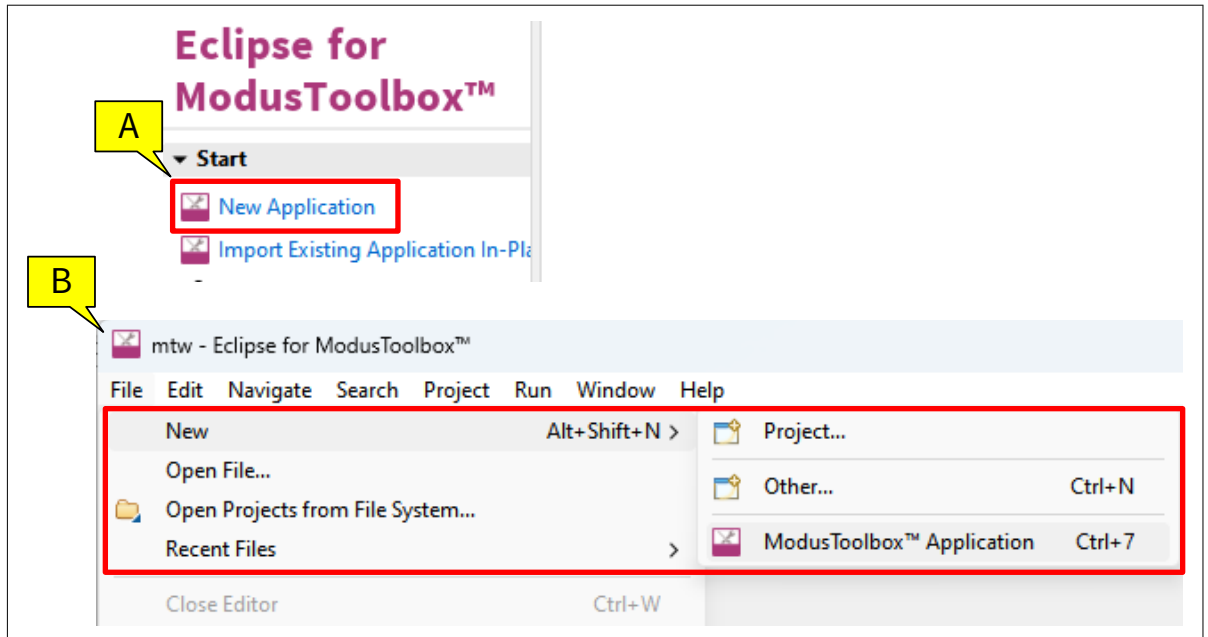

Figure 9 Create a new ModusToolbox™ application
- b. Alternatively, you can choose **File > New > ModusToolbox™ Application**, as shown in Figure 9